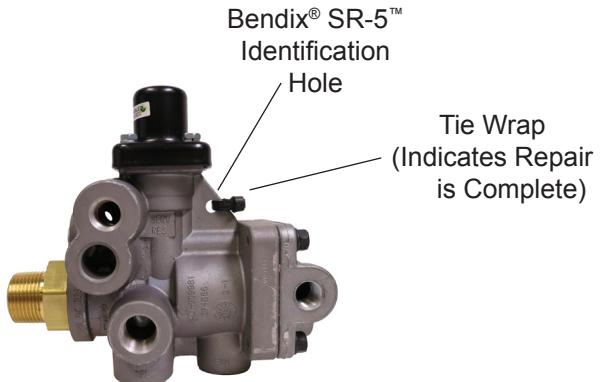

Figure 2 – Tie Wrap Location
6. For identification purposes, secure the green tie wrap (2) through the identification hole located on the valve body. (Refer to Figure 2.)
7. Included in this kit is a Bendix decal (5) that can be placed on the trailer upon completion of the valve installation. The installation of this decal is not required; however, it may be helpful for quick identification of the trailers that have been serviced per the recall.
Note: Bendix SR-5 valves with a green or black tie wrap through the identification hole in the body have already been repaired. No further servicing is required. (Refer to Figure 2.)